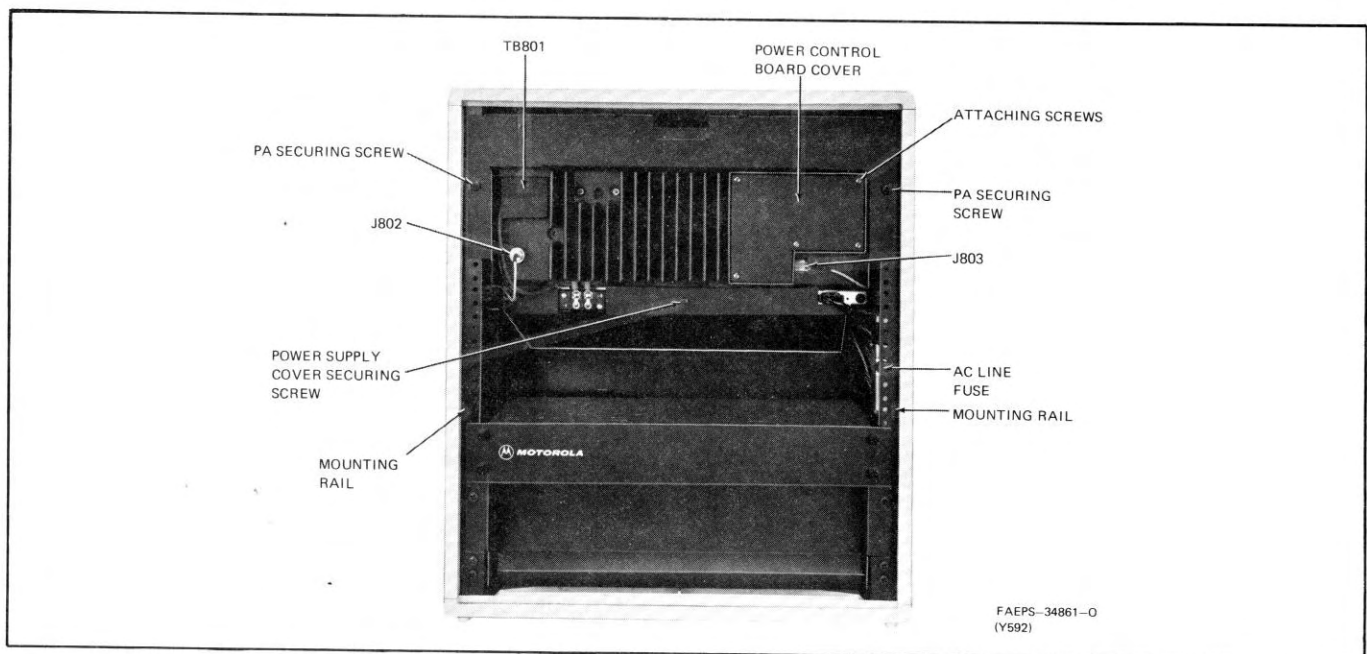

Figure 1. PA and Power Supply Detail of Intermittent Duty Station
5.1.2 The ac line fuse is located on the front side of the junction box at the right-hand side of the cabinet (refer to Figures 1 and 3). To replace the fuse, disconnect the line cord from the junction box. Unscrew the fuseholder cover from the fuseholder with a screwdriver.
5.2.1.1 To gain access to the power control board for servicing and metering, remove the 5 screws holding the cover over the power control board area of the PA casting (refer to Figure 1).
### 5.3 RF CONTROL CHASSIS ACCESS AND REMOVAL (Refer to Figures 1 and 3.)
5.7.2 To gain access to the power supply chassis, remove the power supply cover plate located under the PA chassis. It is retained by a single screw in the upper center of the cover (refer to Figures 1 and 3). For continuous duty stations, remove the top power supply cover plate located directly behind the PA chassis. It is retained by two screws located in the lower left and right hand corners. It may also be necessary to remove the PA chassis from the station housing, refer to the Power Amplifier Removal and Access paragraph in this section.